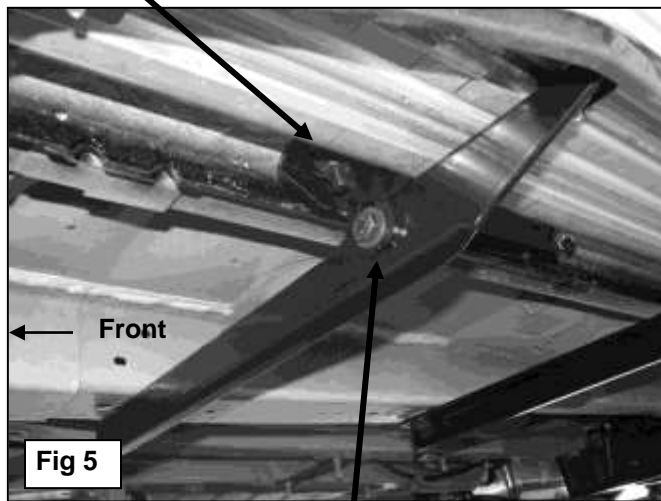

Fig 5
- 5.** Bolt the Support Bracket on the Bracket assembly to the Bolt Plate, (over the Lock Plate), with (1) 10mm Flat Washer, (1) 10mm Lock Washer and (1) 10mm Hex Nut, **(Figure 5)**.